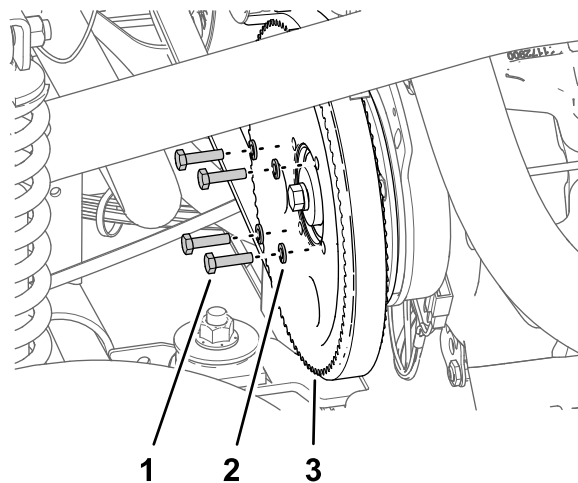

Figure 178
- Remove the 4 bolts (1/4 x 1 inch) and 4 lock washers (1/4 inch) that secure the pulley to the sprayer pump (Figure 178).